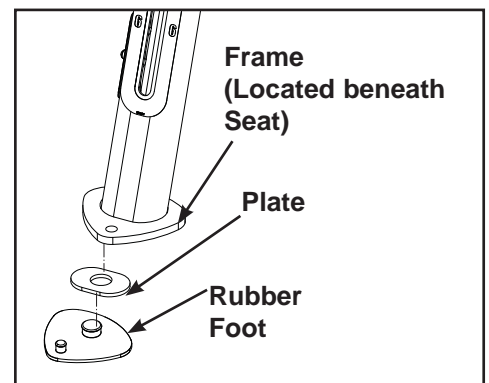

Figure 1
- Secure plate (supplied with machine) to rubber foot before installing rubber foot to foot frame (located under seat). See Figure 1.
- Install rubber foot/plate to frame as shown in figure 1.